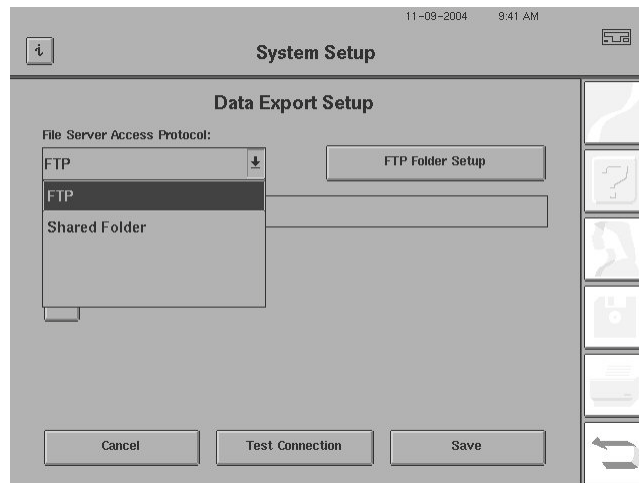
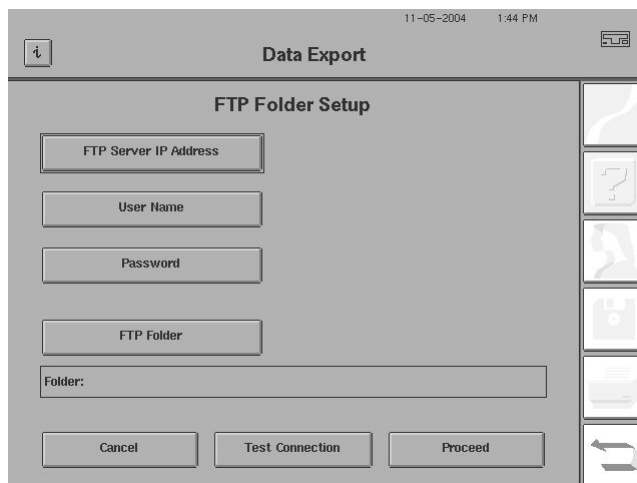

Figure I.9 Location of FTP Folder Setup Button
Figure I.10 FTP Folder Setup Screen
- 3 Select the FTP FOLDER SETUP button (Figure I.9) to bring up the FTP Folder Setup screen (Figure I.10).